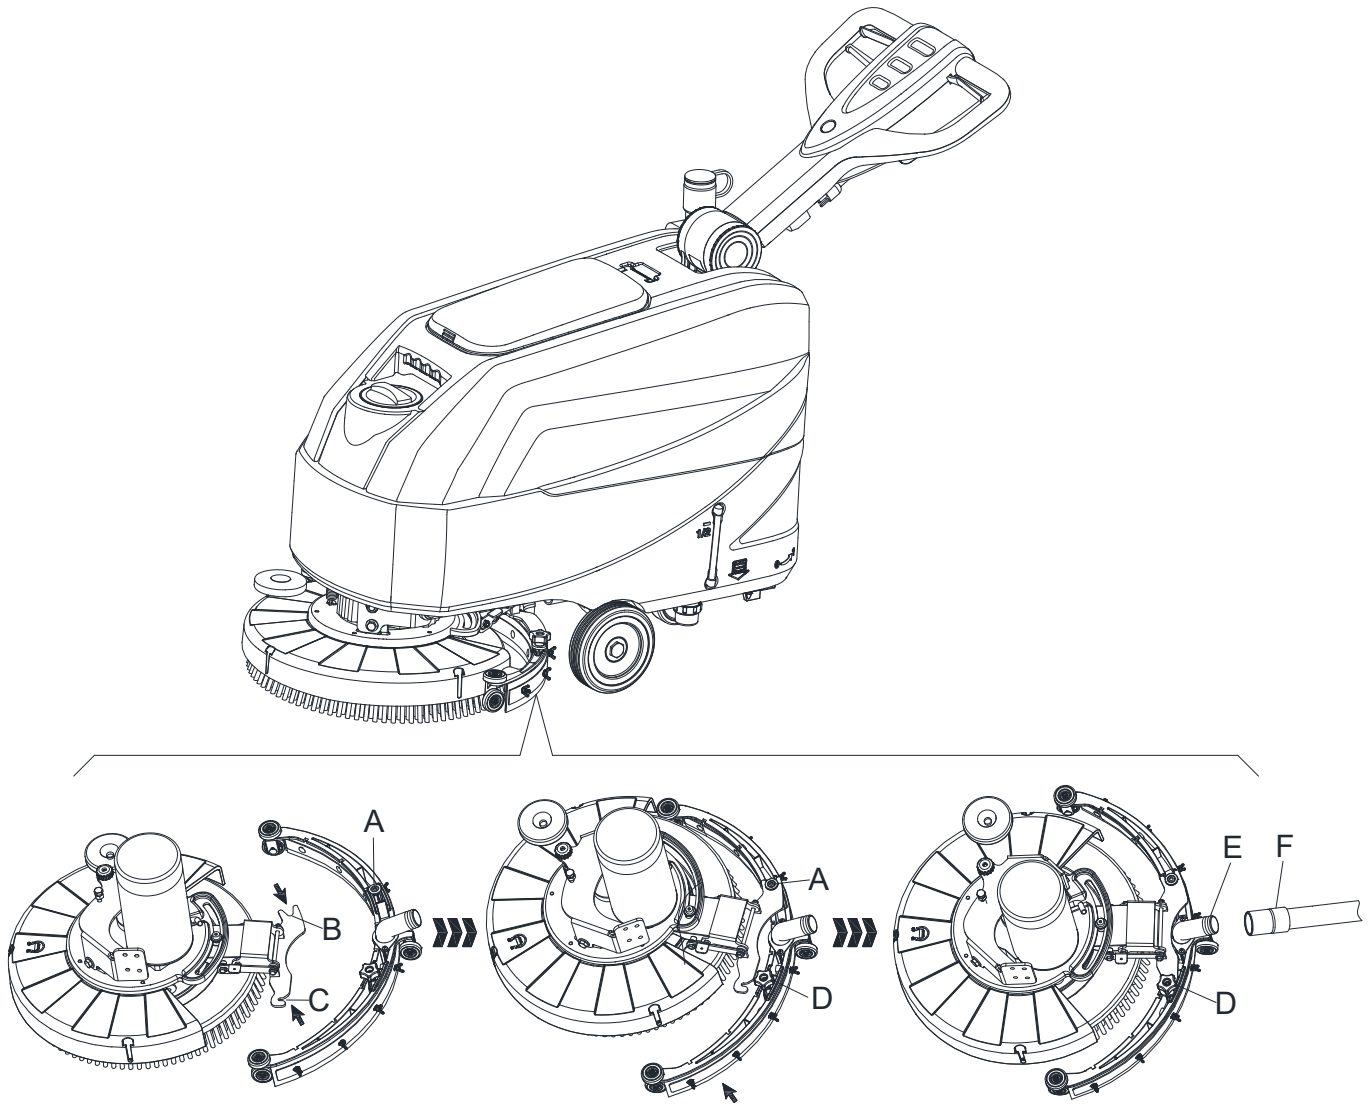

Figure 4
5. Fix stud A to the opening B, then fix another screw C to the open D, fasten squeegee knob and connect recovery water drain hose F to the connector E (Figure 4).